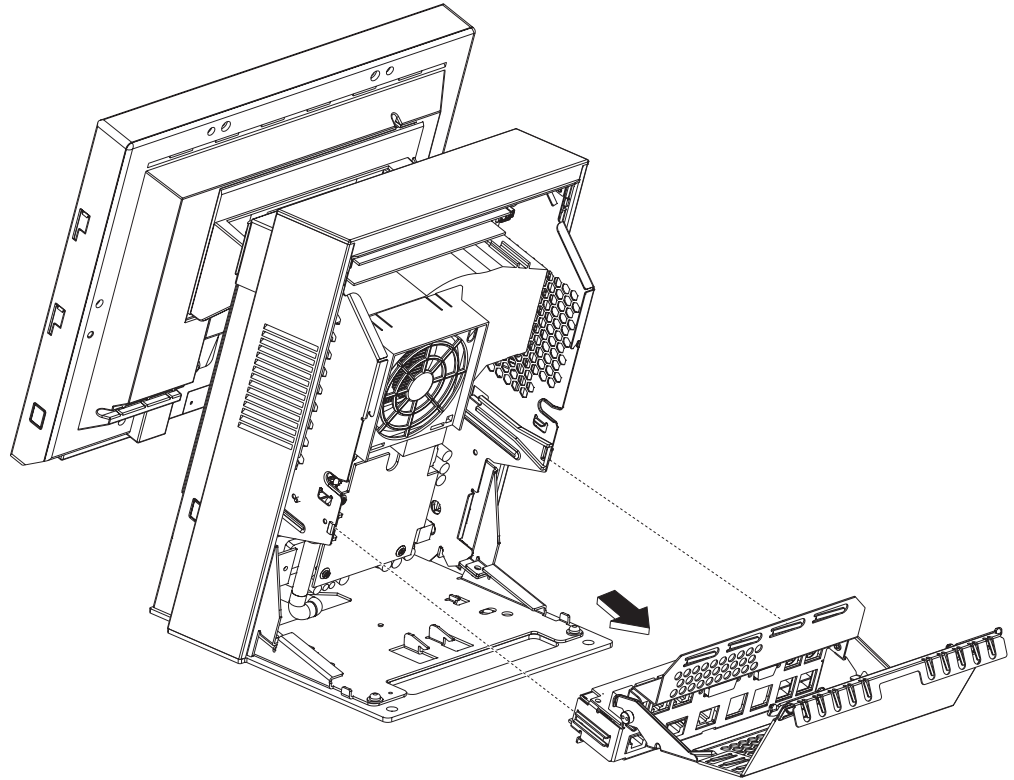

Figure 25. Removing the tailgate
7. As shown in Figure 25, pull the I/O tailgate and attached I/O tailgate cover from the system board.